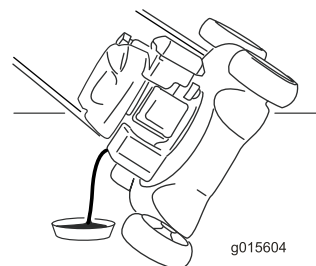

Figure 27
7. Tip the machine onto its side, with the oil-fill tube down, to drain the used oil out through the oil-fill tube into the oil-drain pan (Figure 27).